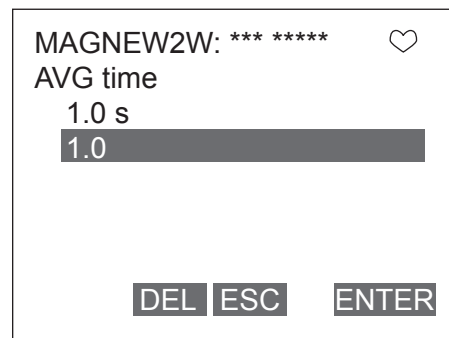

Fig. 7-24.
2. Once the display as shown in Fig. 7-24. appears, move the arrow key up or down to select On or OFF. After making a selection, press F4 (ENTER). If F3 (ESC) is pressed here, the selection will be canceled and the display will return to the Noise immunity menu.